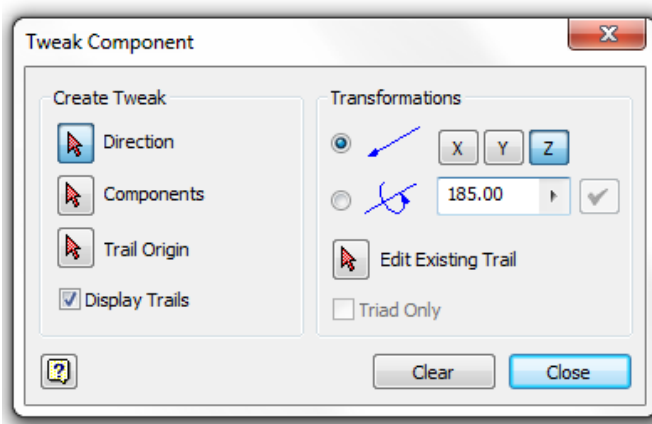

Figure Step 12
Step 12 Enter the TWEAK COMPONENTS command. It will open the Tweak Component dialogue box. Set it as shown in the figure. (Figure Step 12)